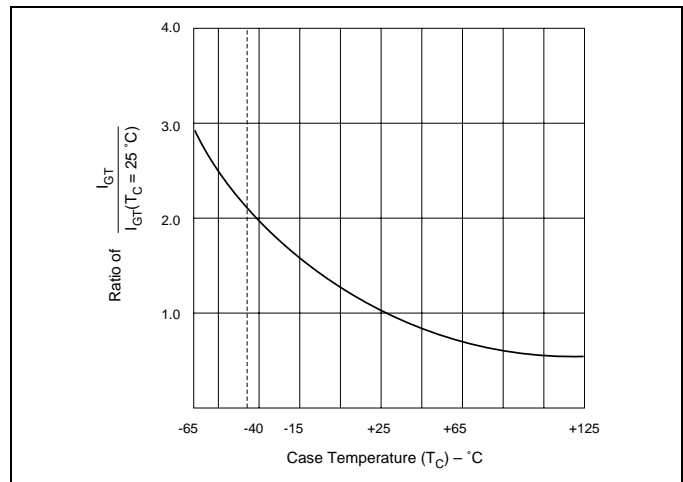

Figure E2.11 Normalized DC Gate Trigger Current for All Quadrants versus Case Temperature
- See Figure E2.11 for  $I_{GT}$  versus  $T_C$ .